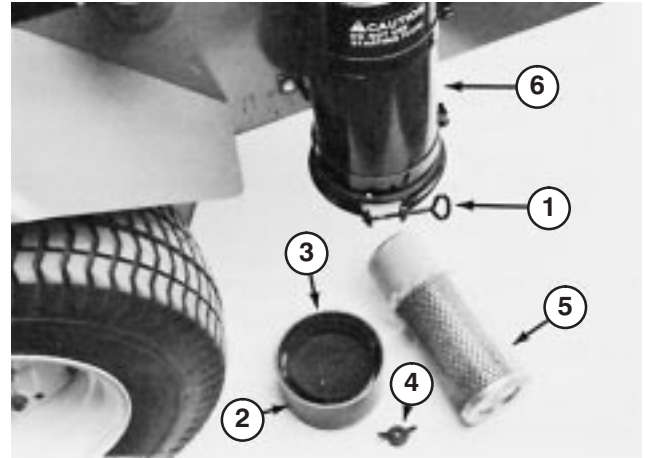

Figure 31
1. Loosen thumb screw until dust cup and baffle can be removed (Fig. 31). Separate dust cup and baffle (Fig. 31).
2. Remove wing nut w/gasket and slide filter element out of air cleaner body (Fig. 31).